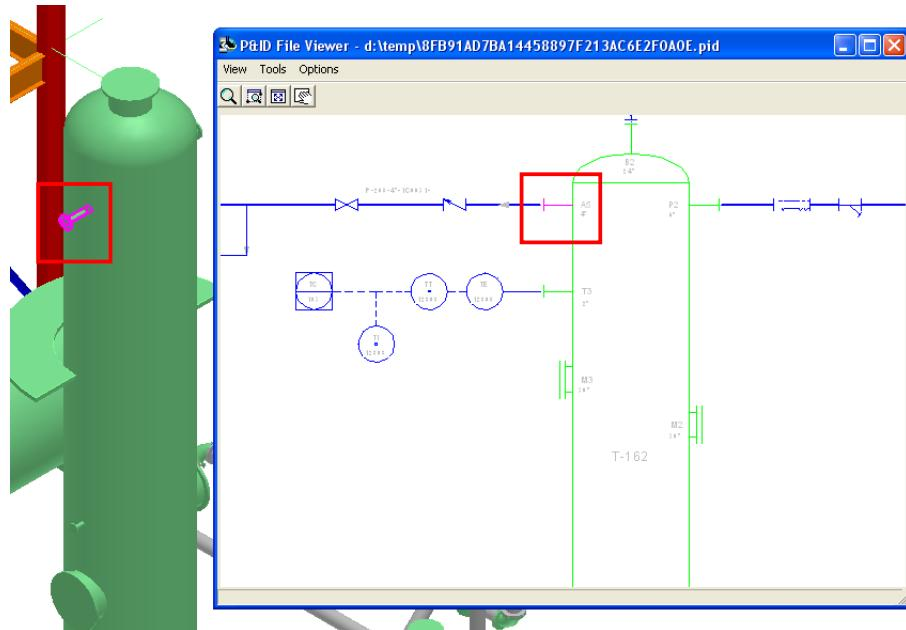

Figure 8: Selected Equipment Nozzle A5
40. In the **P&ID File Viewer** window, click the equipment nozzle **A5**. The nozzle **A5** will be highlighted in the graphic view, as shown in Figure 8.